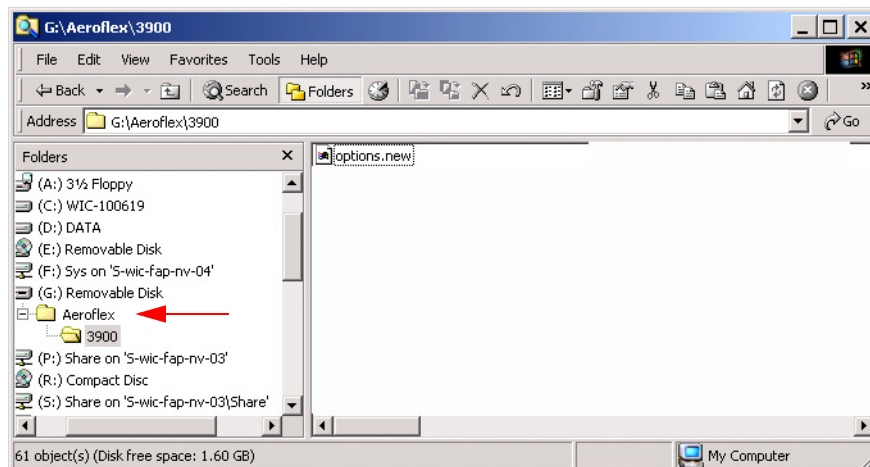

Fig. 3-55 Directory Format for License Installation
- Create Aeroflex\3900 directory on USB memory device or Floppy Disk. Place options.new file in 3900 folder. Refer to Fig. 3-55 for an example of directory formatted on a USB memory device.